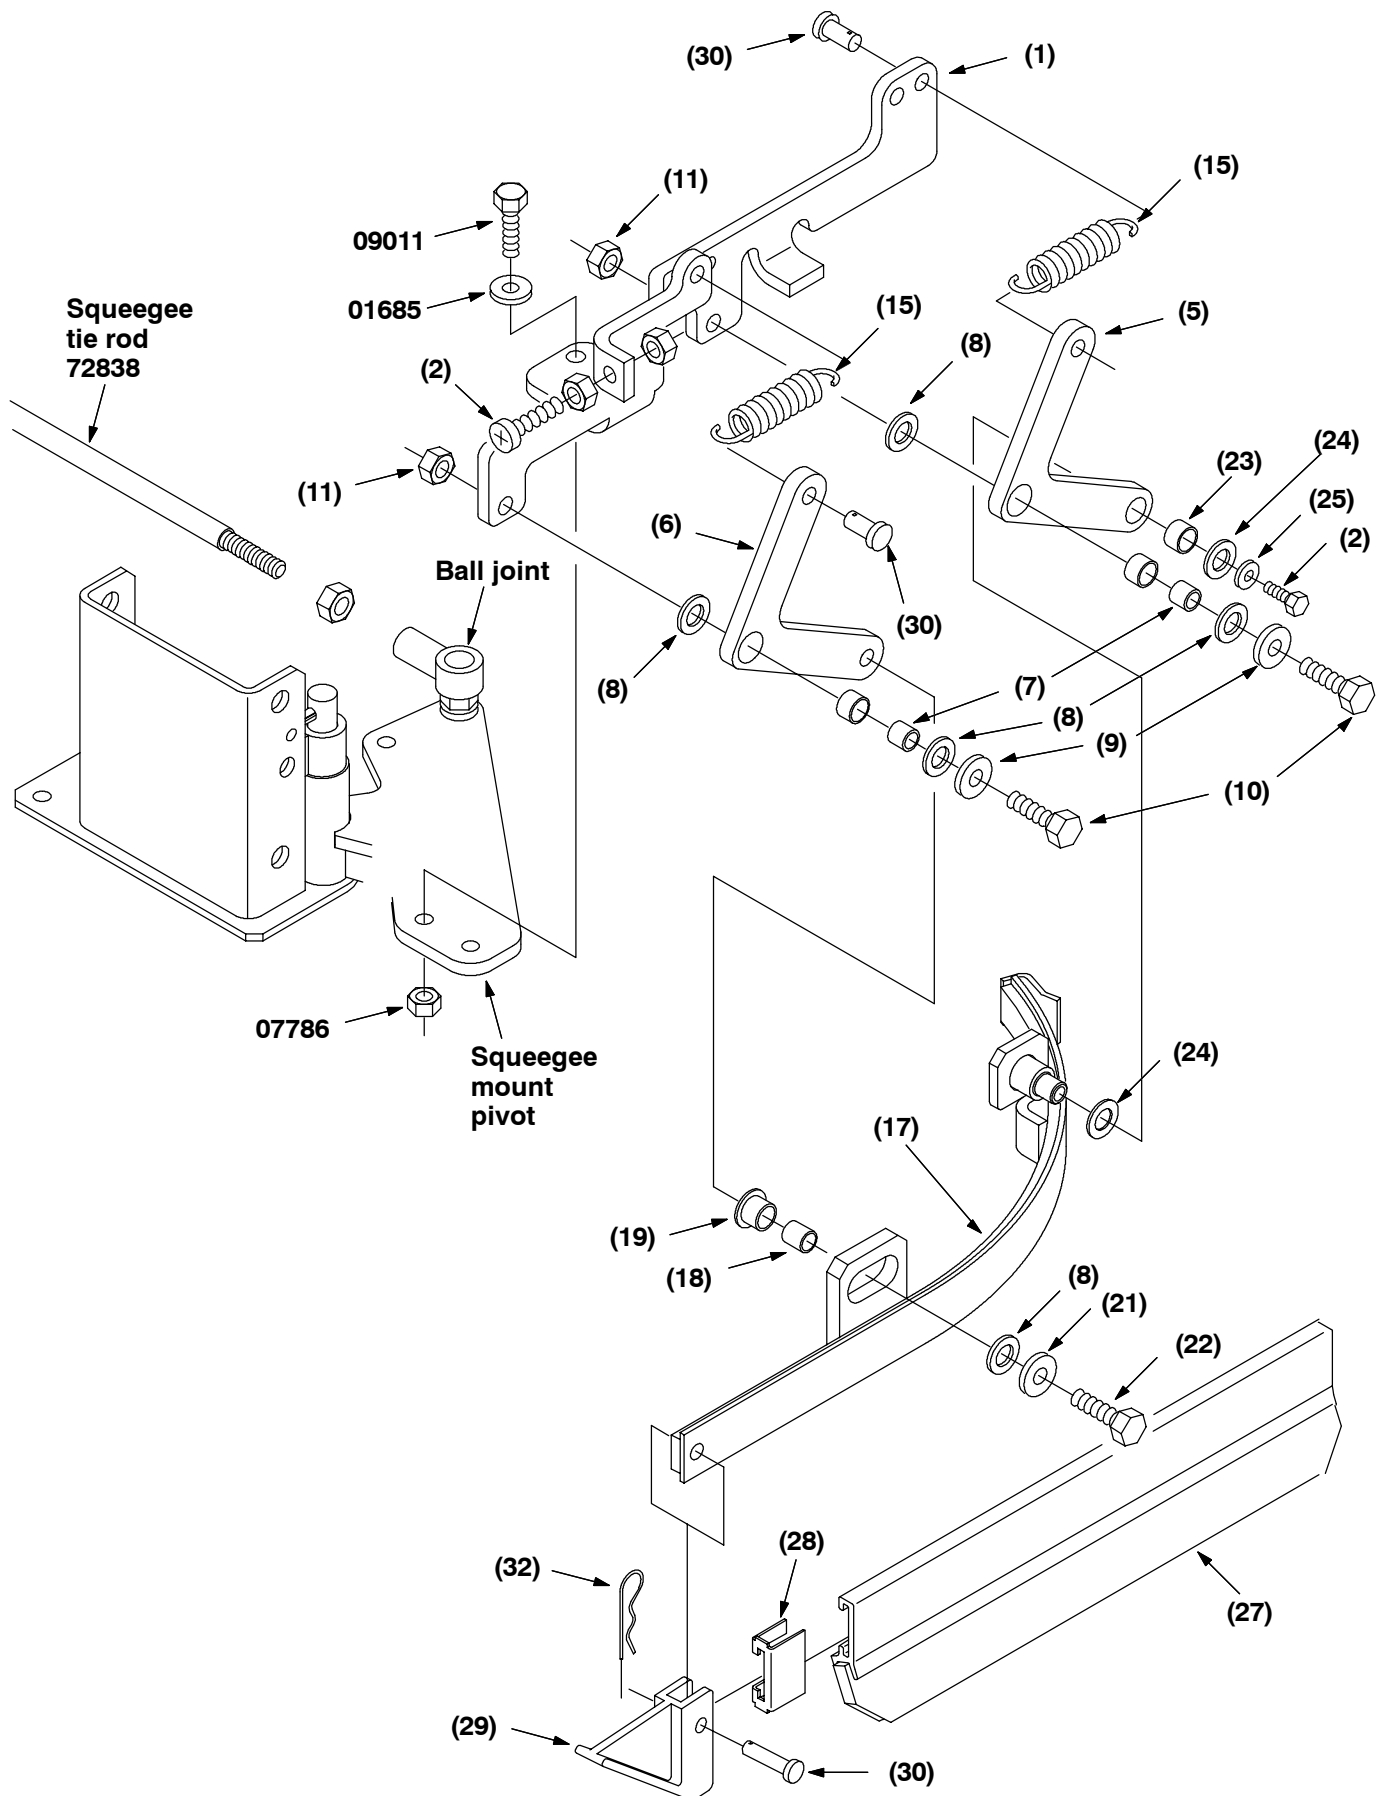

FIG. 1 - LEFT HAND SIDE SQUEEGEE ASSEMBLY 84116
(Refer to FIG. 1, 2, 3, and 4)
1. Remove the two hex screws holding the left hand side squeegee to the pivot bracket. Remove the old style side squeegee assembly from the machine. (Refer to FIG. 1 and 2)
2. Go to the right side of the scrub head and remove the shoulder bolt and nut holding the right hand side squeegee to the pivot bracket. Remove the old style side squeegee assembly from the machine. (Refer to FIG. 1 and 2)
3. Remove the old style squeegee tie rod from both side squeegee pivot brackets. Remove and retain both ball joints and jam nuts. Discard the old tie rod. (Refer to FIG. 1 and 2)
4. Install the ball joints and jam nuts on the new squeegee tie rod (10) in the same orientation as they were on the old rod. (Refer to FIG. 1 and 2)
(Refer to FIG. 1 and 2)
6. Assemble the new **left** hand side squeegee assembly (1) using the parts explosion in FIG. 1. Use the parts list on page **4** for any future parts orders. (Refer to FIG. 1)
(Refer to FIG. 1)